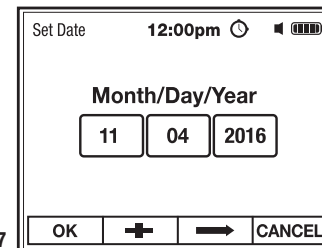

Fig. 27
2. Use the **F2 +** soft key to set numeric value (highlighted in red), (Fig. 27).
3. Use the **F3** $\Rightarrow$ soft key to select Month, Day or Year (Fig. 27).
4. Press the **F1 OK** soft key to save setting and return to Date/Time Menu (Fig. 27).